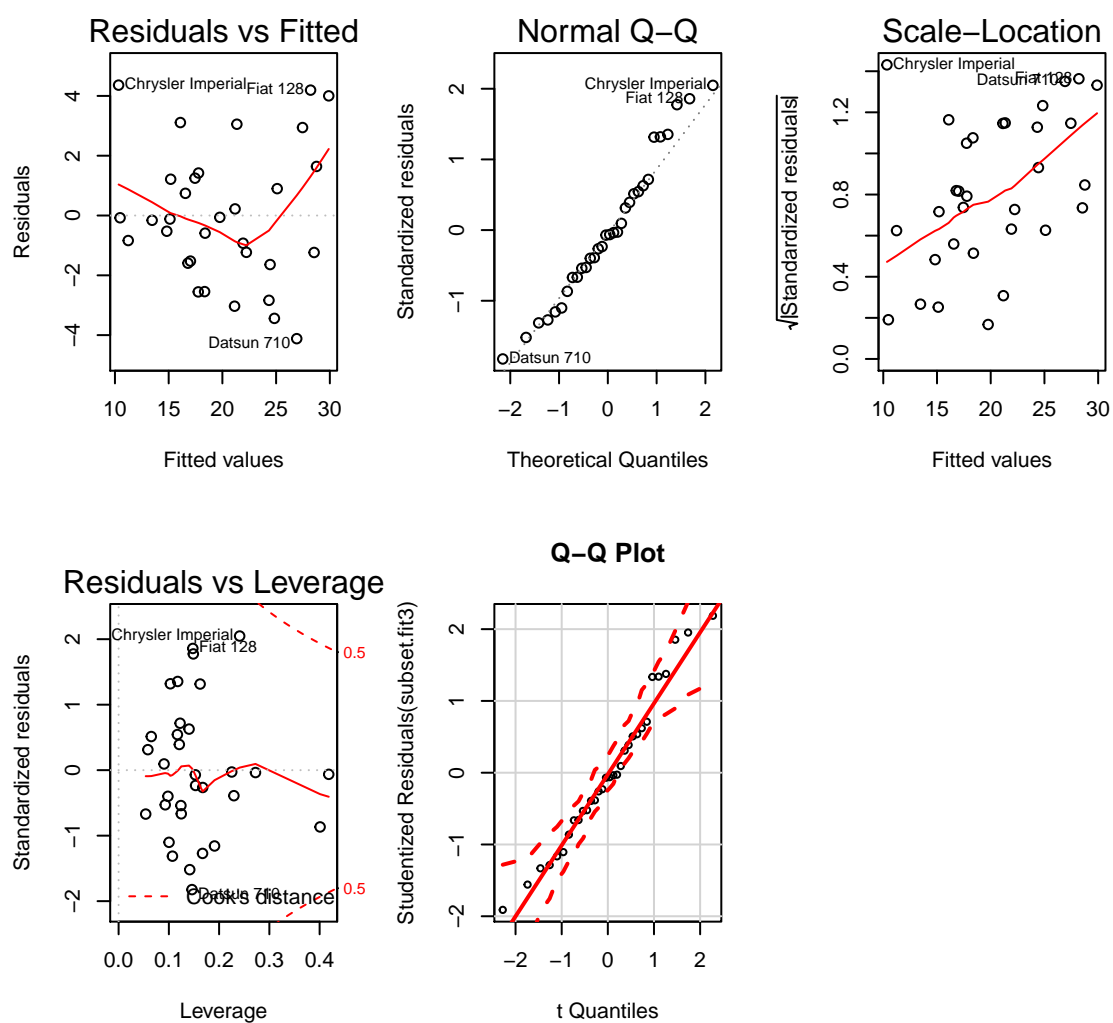

Figure 3: Diagnostic plot of our final model
My winner is model *subset.fit3* even if it hasn't the lowest AIC but the three subset models are close to each other. Because of the page limit i cannot plot more than one diagnostic plots to show my decision but i found the diagnostics better for that model. The diagnostic plot goes to **Figure 3**.
- *Normality*: The Q-Q-Plot in the lower right (and also in the upper middle but without confidence envelop) in **Figure 3** contains a 95% confidence envelope and shows that most of the points are close to the line within this envelop. There are some outliers we should examine but this is left to the reader. I suggest that normality is given.